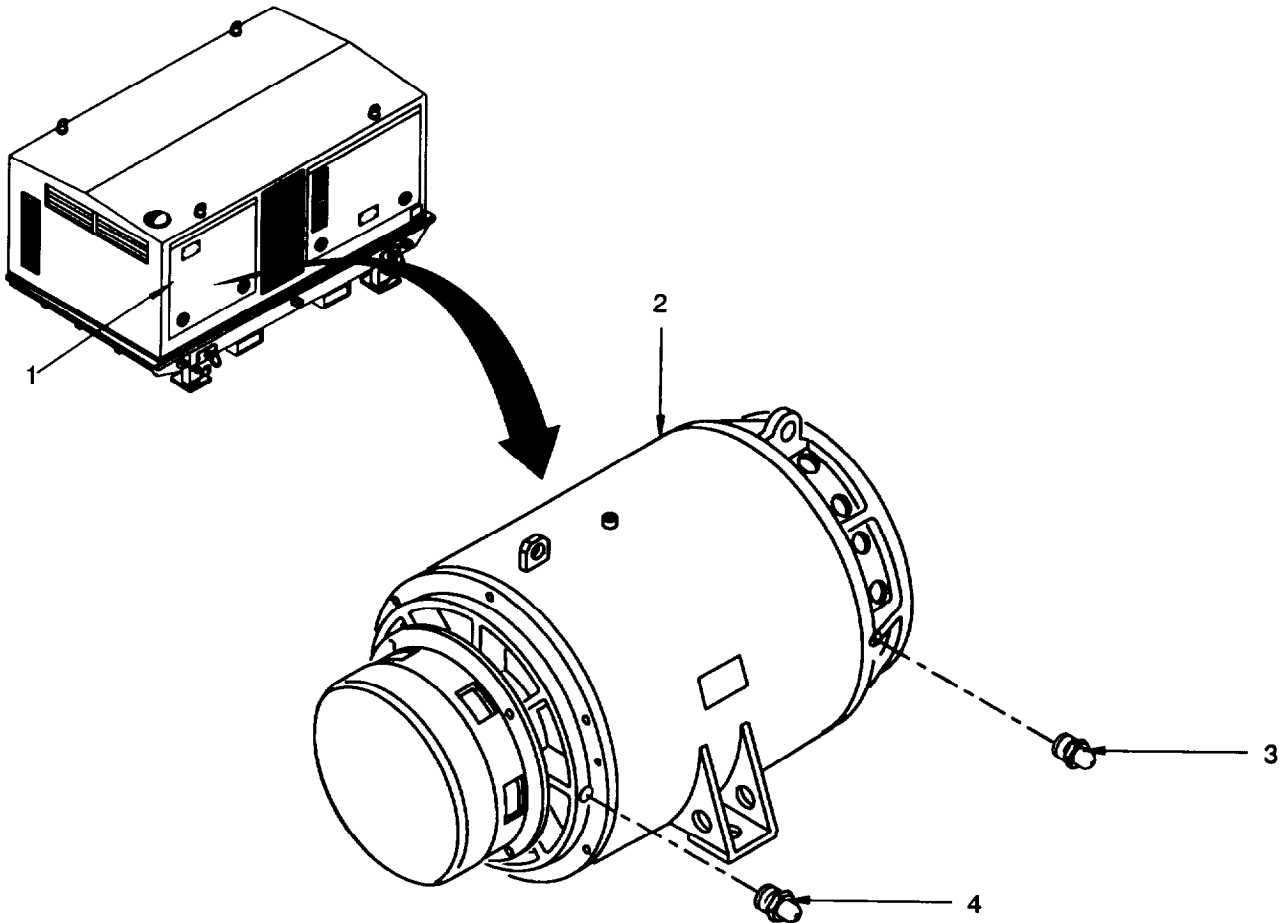

Figure 4-4 Lubricate synchronous generator bearings.
- a. Open flap (1, figure 4-4).
- b. Place grease gun on grease nipple (3) and (4) and inject approximately 1.4 ounces (40 g) bearing grease (item 4, appendix E) into synchronous generator (2) bearing.